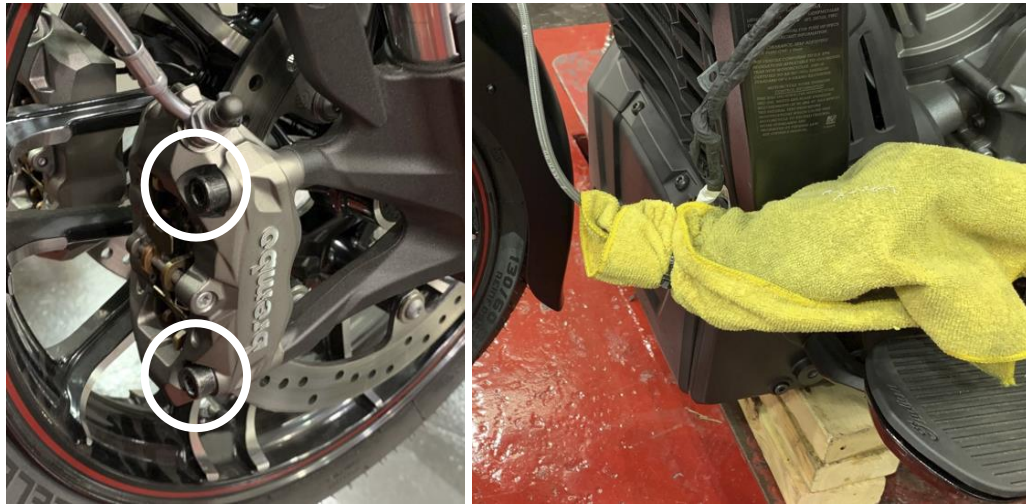

Figure 15: Remove the brake calipers.
18. Remove the front brake calipers from the suspension forks by unscrewing the allen head mounting bolts. Do NOT remove the brake line from the caliper. Once the caliper is removed, wrap it in a rag or towel and zip tie it back to the motorcycle frame while allowing it to hang from the brake lines. **WARNING: Do not squeeze the front brake lever once the calipers are removed.** This will push the pistons out of the calipers making it difficult to re-fit over the rotor or cause leaks, brake bleeding, and possible caliper rebuild. See Figure 15.
17. Reinstall the brake calipers. Apply blue Loctite 243 and torque the caliper bolts to 35 ft.-lbs. See Figure 15.